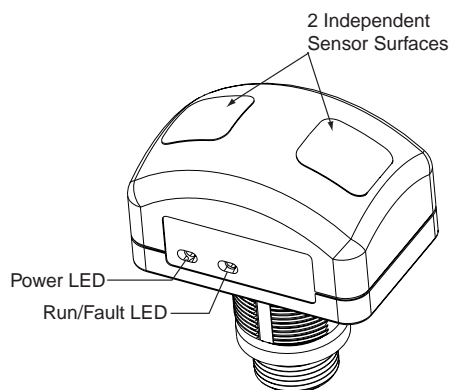

Figure 1
2. To send an output, simply place palm or fingers onto ergonomically contoured surface, covering both raised sensor pads (see Figure 1).